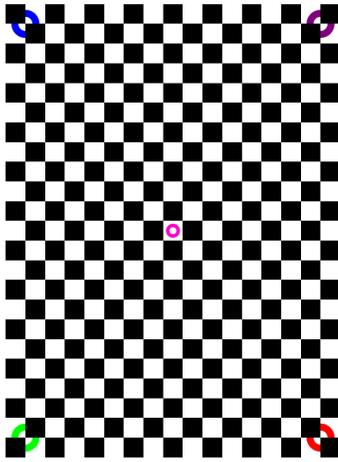
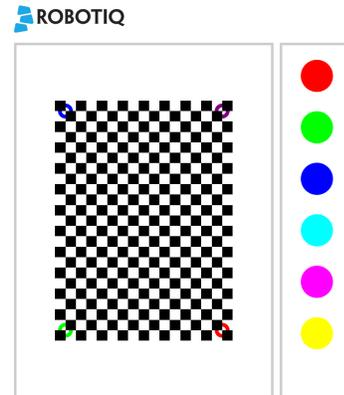

Fig. 6-3: This side of the calibration board is used for UR5 and UR10 Universal Robots models.
Fig. 6-4: This side of the calibration board is used for UR3 Universal Robots models. Color dots are not currently used by Robotiq software.
1. Place calibration board (ACC-CALIB-BOARD) on the Wrist Camera work plane. Select the appropriate side for your Universal Robots model (see Fig. 6-3 and Fig. 6-4).